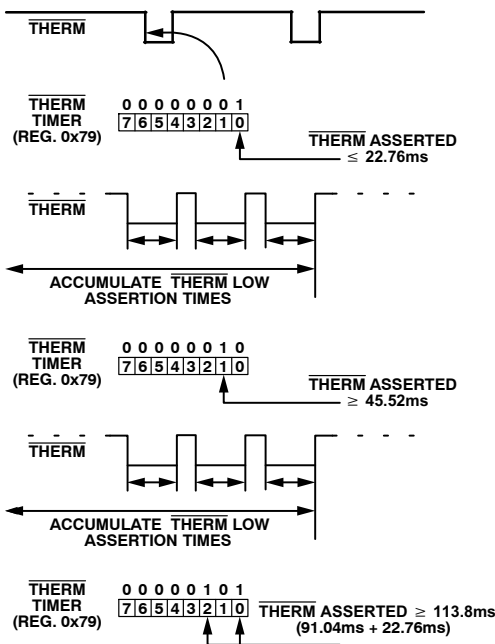

Figure 32. Understanding the  $\overline{\text{THERM}}$  Timer
45.52 ms, Bit 1 of the  $\overline{\text{THERM}}$  timer is set and Bit 0 now becomes the LSB of the timer with a resolution of 22.76 ms (see Figure 32).